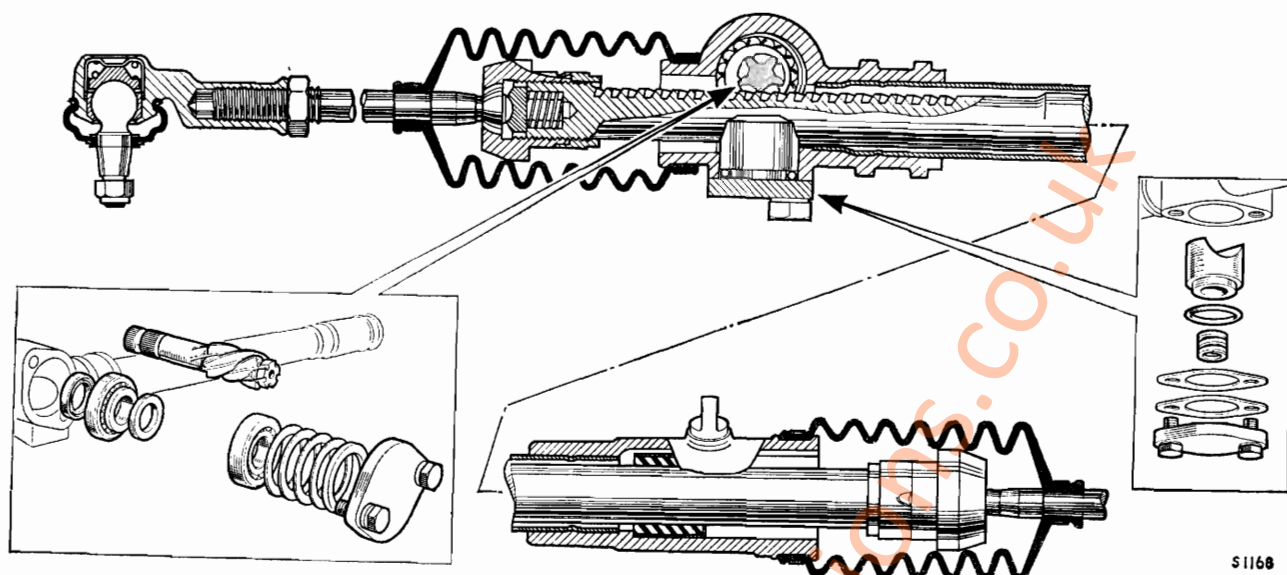

Fig. J.3
- (26) Reverse the dismantling sequence but note: If fitting a new felt bush (early models), soak the bush in E.P. S.A.E. 140 oil.
- (27) The plastic bush may be used as a replacement for the felt bush and is used together with a steel sleeved bush and spacer. Insert the spacer (plain end first) into the rack housing. Fit the plastic bush into the steel sleeve and insert it into the rack housing (plain end first), with the flats on the plastic bush positioned offset to the retaining screw hole in the rack housing. Ensure that the spacer and bush are correctly positioned and drill through the retaining screw hole and the bush with a $\frac{7}{8}$ in. (.27 mm.) drill. Remove all swarf; coat the retaining screw with a jointing compound and refit to secure the bush. Check that the screw does not project into the bore of the plastic bush.
- (28) *Pinion adjustment (early models)*. Refit the cover without the shims, but do not over-tighten the screws. Measure the gap between the cover and the housing. Remove the cover and add shims to the thickness of the measurement minus .002 in. (.05 mm.). Refit the cover with jointing compound.
- (29) *Pinion adjustment (Mk. II models)*. Refit the pinion and bearings as shown in Fig. J.3. Add sufficient shims together with the spacer washer to provide a clearance of approximately .010 in. (.25 mm.) between the rack housing and the cover plate. Fit and lightly tighten the cover plate. Take a feeler gauge measurement of the clearance (A) and reduce the shimming by the measurement taken,